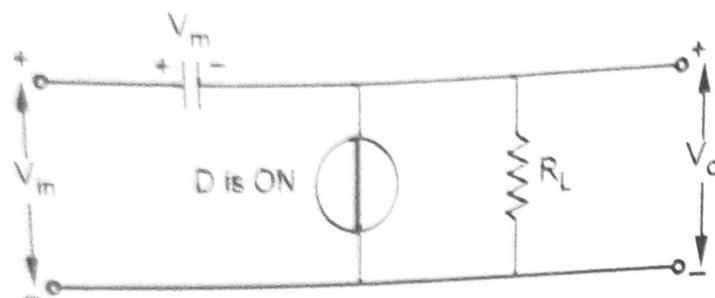

Fig. Q.49.2
- The capacitor once charged to V_m acts as a battery of voltage V_m because of its large time constant, as shown in the Fig. Q.49.2.